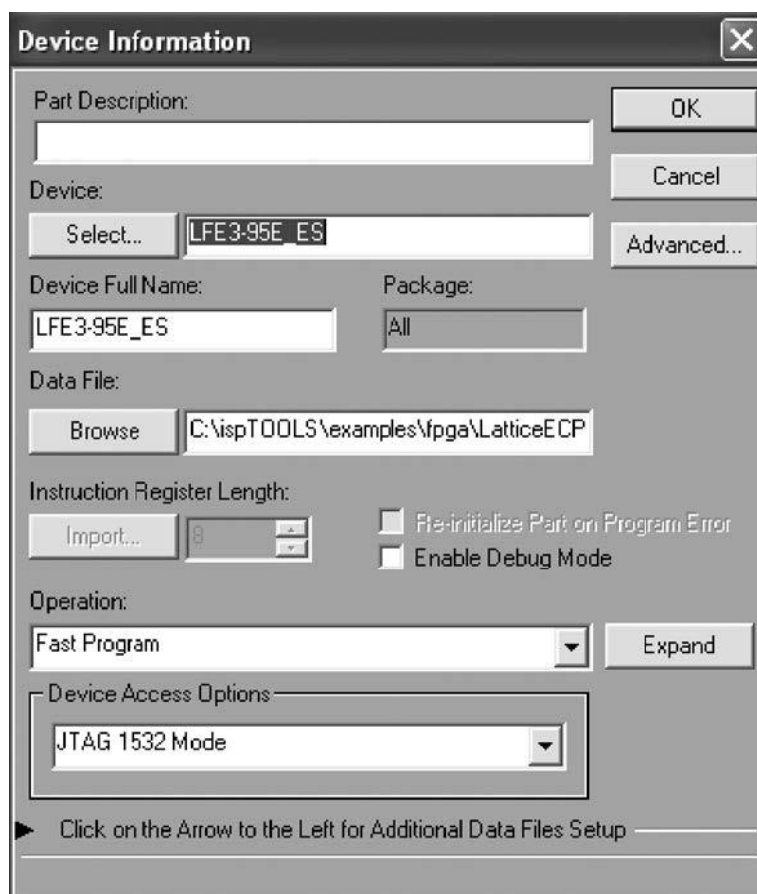

Figure 10.4. Device Information Window (Encryption Option)
3. Double-click on the line in the chain containing the LatticeECP3. This opens the Device Information window (see Figure 10.4). From the Device Access Options drop-down box, select Security Mode and then click on the **Security Key** button to the right. The window will look similar to Figure 10.5.